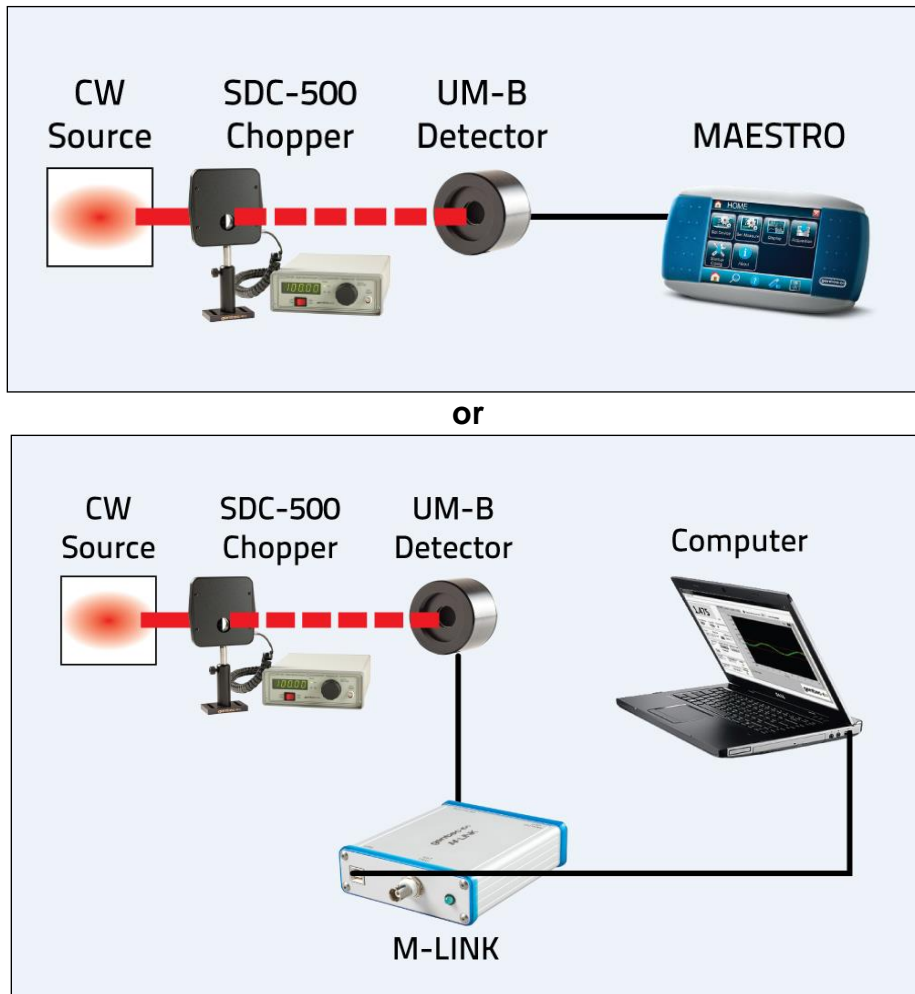

Figure 2.1: UM9B-BL-D0 with monitor
- 2- Connect the wattmeter to a compatible Gentec-EO laser power monitor (see Fig. 2-1).